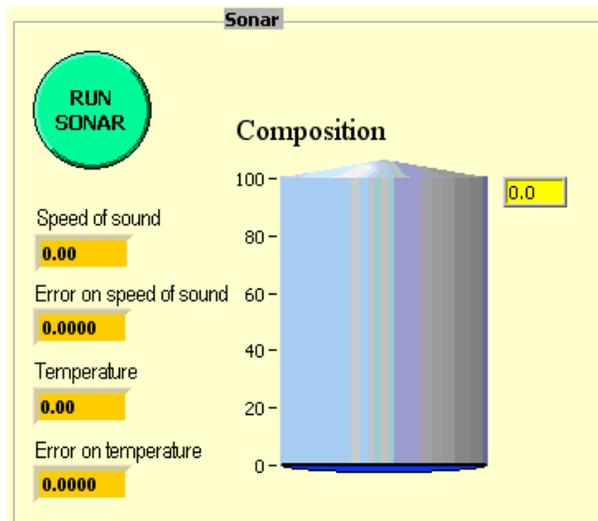

Figure 4.7: The Sonar System.
The sonar system has been described in the chapter 1, the window application is shown in the figure 4.7.
- 2.- Press the **RUN SONAR** green button of the sonar dialog window as is shown in the right side of the main window application in figure 4.7.